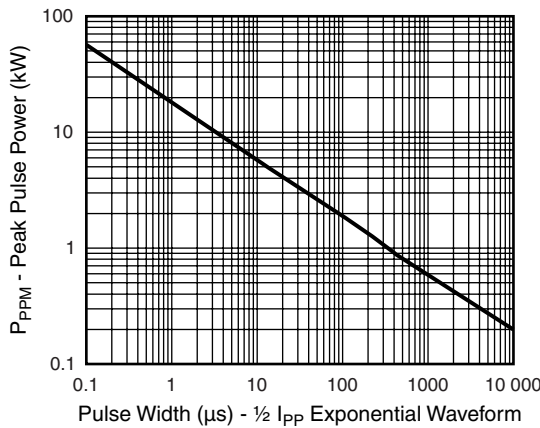
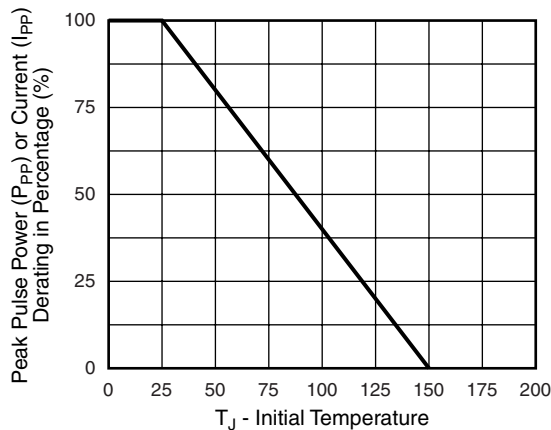

Figure 1. Peak Pulse Power Rating Curve
Figure 2. Pulse Power or Current vs. Initial Junction Temperature
(1) Non-repetitive current pulse, per Fig. 1 and derated above  $T_A = 25^\circ\text{C}$  per Fig. 2.